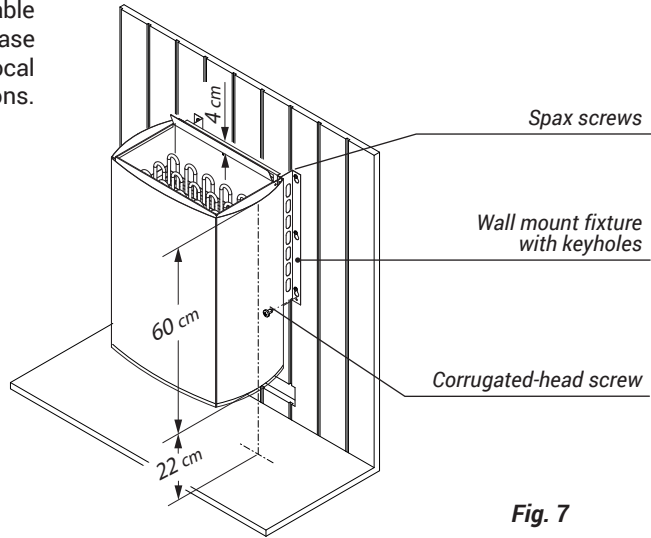

Fig. 7
- Now you can hook the keyholes of the sauna heater onto the spax screws that are screwed into the cabin wall and then secure on the wall fixtures with the two locking screws. (Fig. 7)